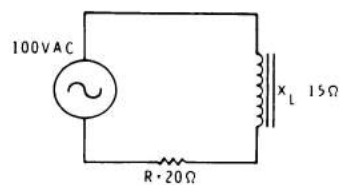

Figure 2-37
36. What is the impedance of the circuit shown in Figure 2-37?
37. What is the current of the circuit shown in Figure 2-37?